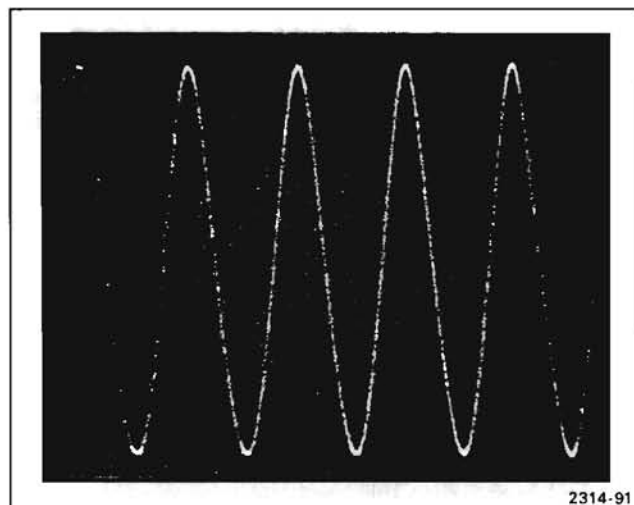

Figure 5-3. Typical 7104 Photographic Writing Rate.
- n. **CHECK**—Photograph should show the 1 gigahertz sine-wave clearly (See Fig. 5-3 for typical photograph).